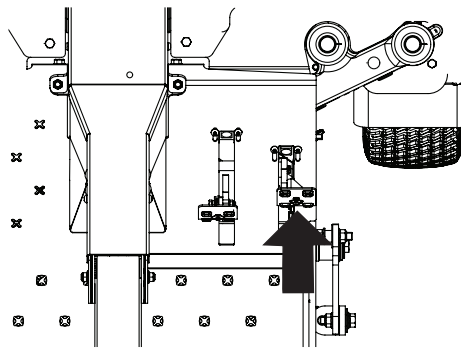

Figure 29
1. Slowly push the reverse drive pedal forward. The mower will start to move in the reverse direction. See Figure 29.